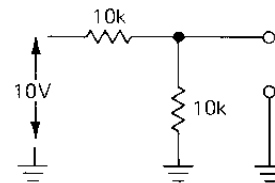

Figure 1.101
(1) Find the Norton equivalent circuit (a current source in parallel with a resistor) for the voltage divider in Figure 1.101. Show